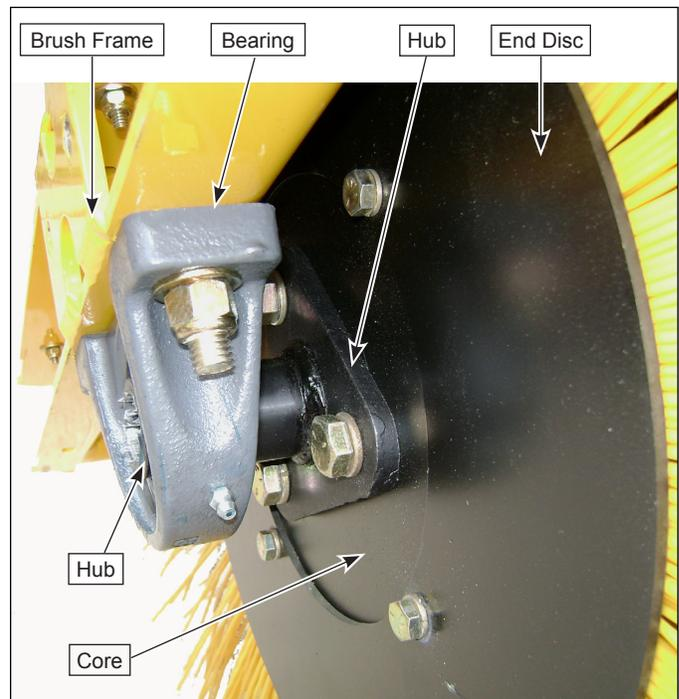

Figure 2
4. Remove (2) 1/2-13 x 2" bolts, flat washers and lock nuts attaching core support bearing to bottom of brush frame at each end of broom. See Figure 2.
2. Remove (3) 1/2-13 x 1" capscrews, lock washers and splined hub from one end of core. Retain hub and mounting hardware. See Figures 2 and 3.
3. Remove (3) or (4) 5/16-18 x 3/4" capscrews, lock washers and end disc (wafer retainer plate) from one end of core. Retain end disc and mounting hardware. See Figures 2 and 3.
4. Install end disc on core with original hardware. See Figure 2.
5. Install splined hub on core with original hardware. See Figure 2.
6. Install end bearing on hub. See Figure 2.
2. Attach support bearings to bottom of brush frame at each end of broom with original hardware. See Figure 2.